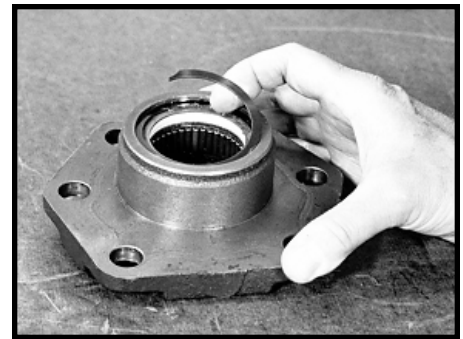

Figure 50
- 13. If included, remove the side cover retaining ring (53), the two-piece side cover seal (54), the Teflon backup washer (55), and the steel backup washer (56) from the side cover (58) SEE FIGURES 50 & 51. Discard the two-piece seal and the Teflon backup washer.